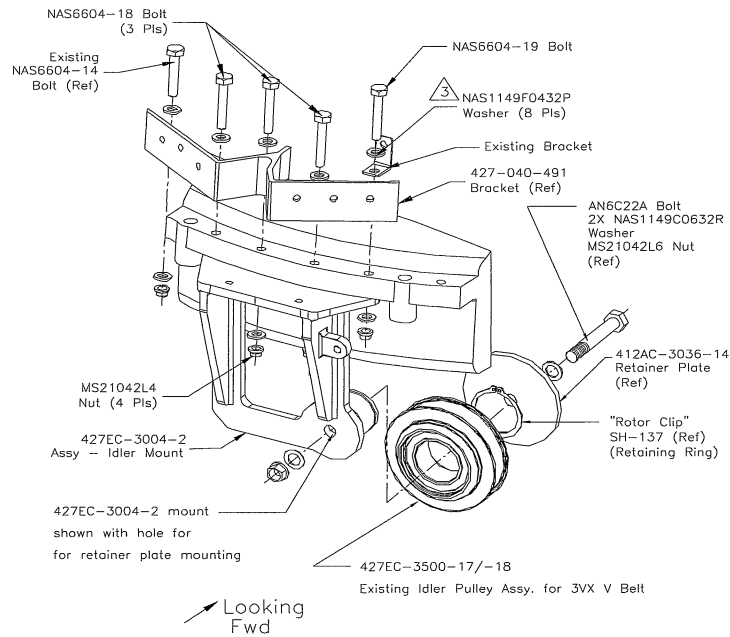

Figure 1.7
10. Remove the NAS6604-18 Bolt (3X), NAS6604-19 Bolt (1X), NAS1149F0432P Washers (8X), MS21042L4 Nut (4X), to remove the 427EC-3004-2 Mount Assembly from the transmission housing. (See figure 1.7)
11. Remove the AN6C22A Bolt (1X), NAS1149C0632R Washer (2X), MS21042L6 Nut (1X), from the 412AC-3036-14 Retainer Plate to access the 427EC-3500-18 Idler Pulley Assembly. Remove SH-137 Rotor Clip from 427EC-3004-2 Idler Mount. (See figure 1.7)